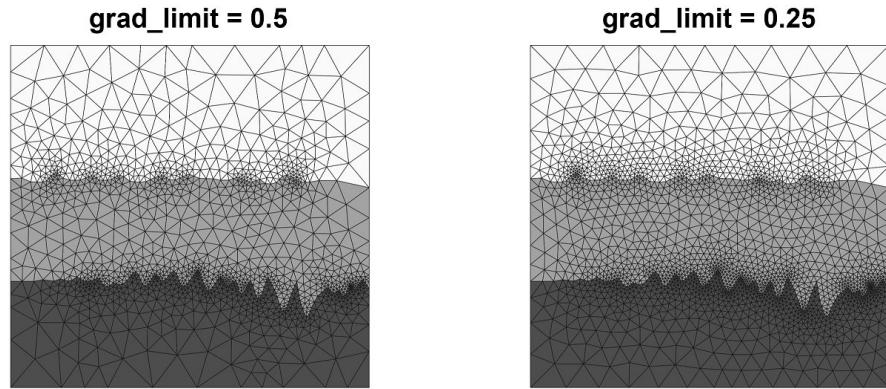

Figure 10: Effect of *Gradient-limit*
- *Gradient-limit*: A limit on the gradient of mesh-size function (Figure 10).⁷ Type: Float. Range: > 0 . Typical value: 0.15 - 0.5.